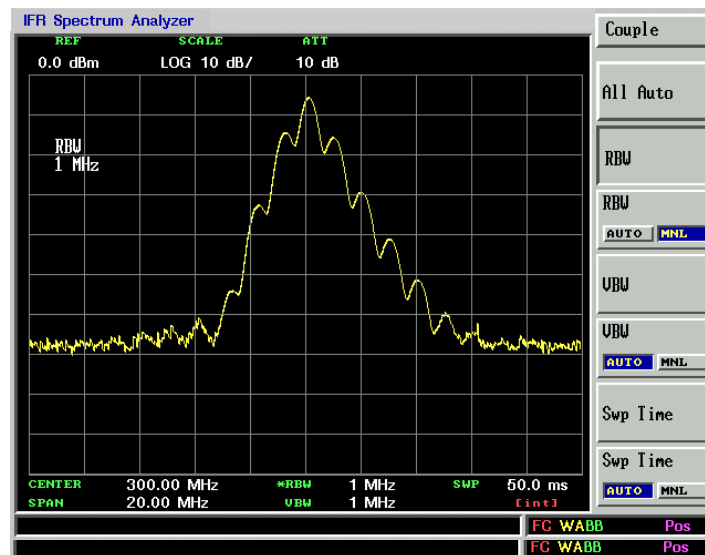

Figure 2-24. Viewing an AM Signal
7. Set the resolution bandwidth to 1 MHz by pressing **CPL**, *RBW [MNL]*, *RBW*, 1 MHz. See Figure 2-24.